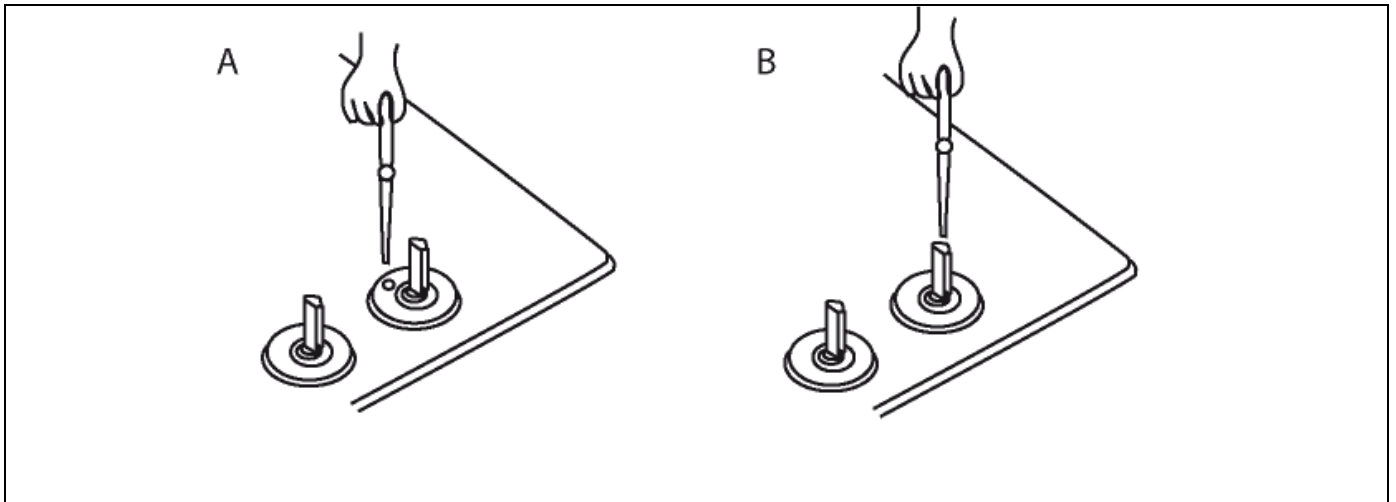

Fig. 10
- put a screwdriver in opening 'A' or mandrel opening 'B' (depending on the type of the tap fig. 10) and turn it, observing the flame, to achieve such a size of the flame that will prevent it from being extinguished in a slight draught or during the operation of quick switching from the full  to the simmering position  . of the flame and back; the adjustment is correct when the core of the flame is cone-shaped in green and blue colour and is ca. 2 - 4mm tall,